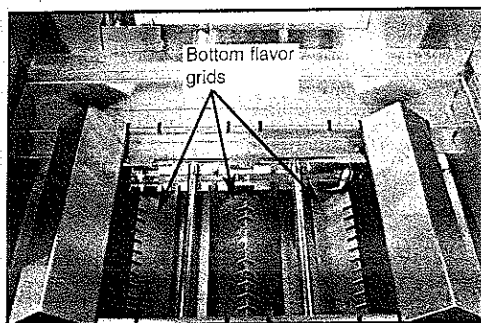

Fig. 12
1. Install the bottom three Flavor Grids, smaller ones with notches, in the cutouts and around the ignitors. (See Fig. 12)